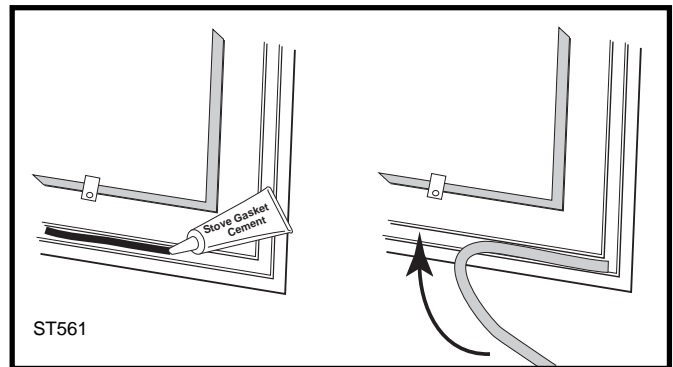

Fig. 30 Lay a bead of gasket cement then press gasket in place.
3. Apply a thin bead of stove cement in the newly-cleaned groove. (Fig. 30)